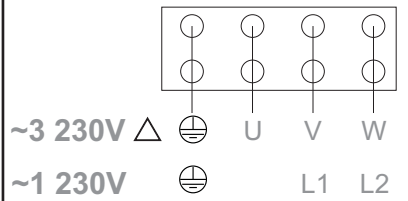

Fig. 5
- The electrical connection will be done following the indications of the section "ELECTRICAL CONNECTION" for single-phase motors. (see scheme fig.5).